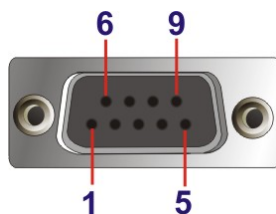

Figure 3-24: DIO Connector Pinout Location
- CN Pinouts:** See **Table 3-4** and **Figure 3-24**